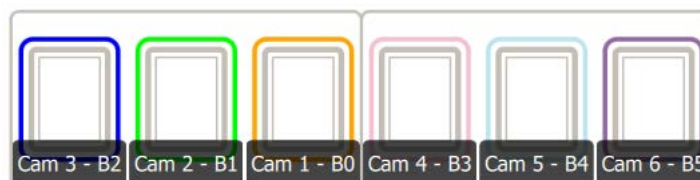

Figure 27 - Monogram Creator Layout, with Buttons 1, 2, and 3 in Reversed Order
5. If controls on a Dial module or Essential Keys module are reversed, as in the example shown in Figure 27, close the profile tab and then re-load the profile.